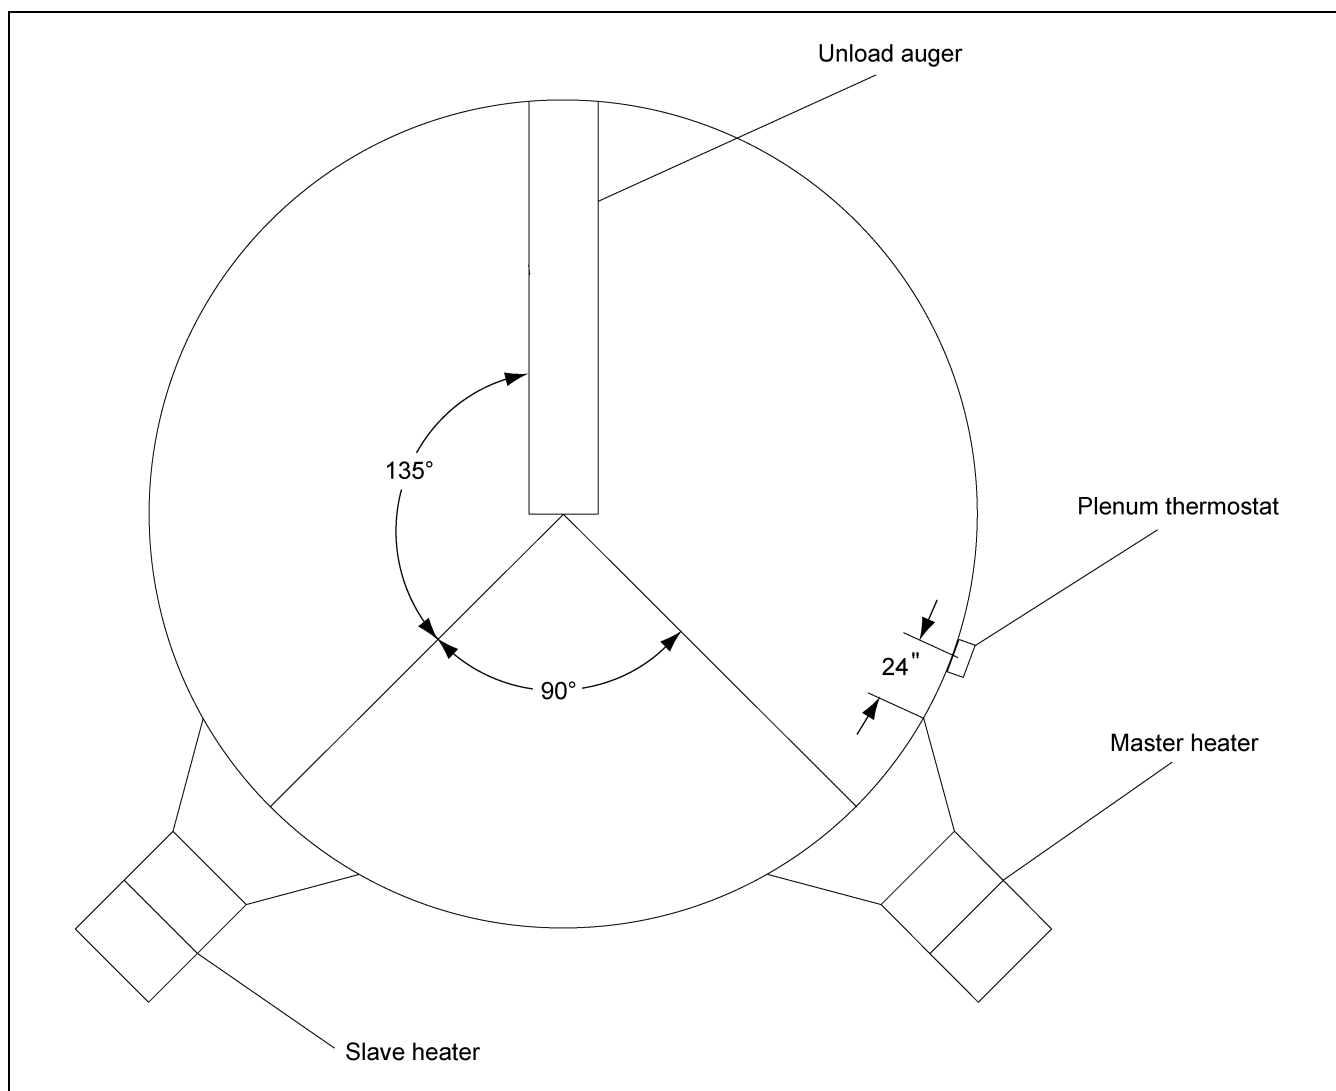

Figure 5A
IMPORTANT: When mounting two (2) heaters on a bin it is imperative that they be situated as in above Figure 5A. Plenum thermostat must be to the right of master heater and master heater must be to the right of slave heater.